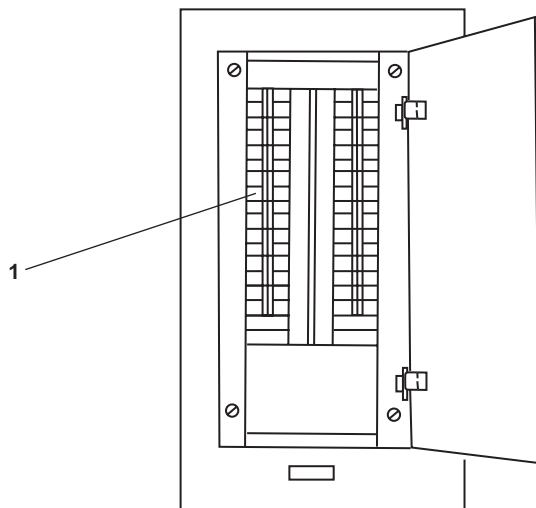

Figure 6. 120V Emergency Distribution Panel 1
2. Set to ON the TOWING MACHINE circuit breaker (figure 6, item 1) in 120V emergency distribution panel 1.